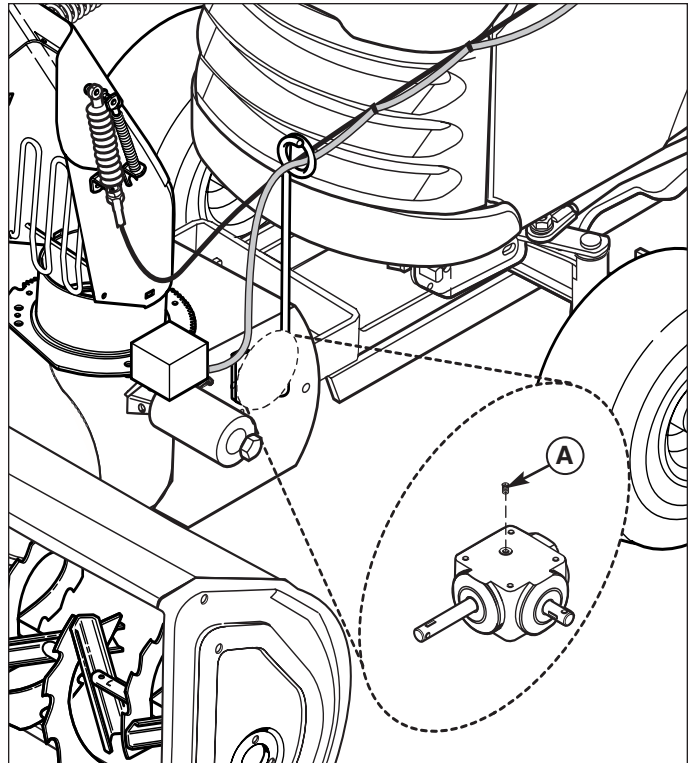

**Figure 3. Auger Gear Box Oil**
1. Remove the plug (A, Figure 3) from the side of the auger gear box.
3. Reinstall the plug (A).